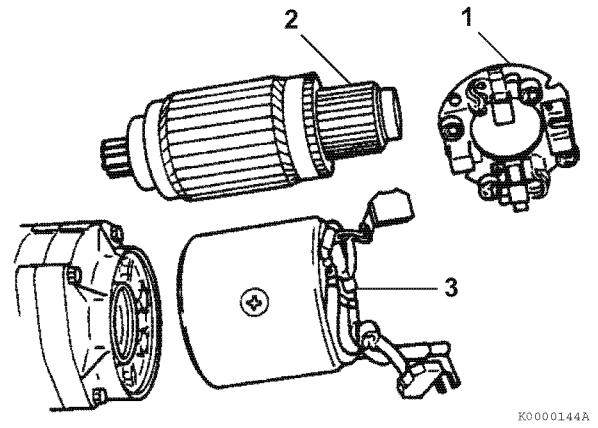

Figure 10-7
7. Remove the brush plate and holder (Figure 10-7, (1)).
8. Pull the field assembly (Figure 10-7, (3)) off from the armature assembly (Figure 10-7, (2)).